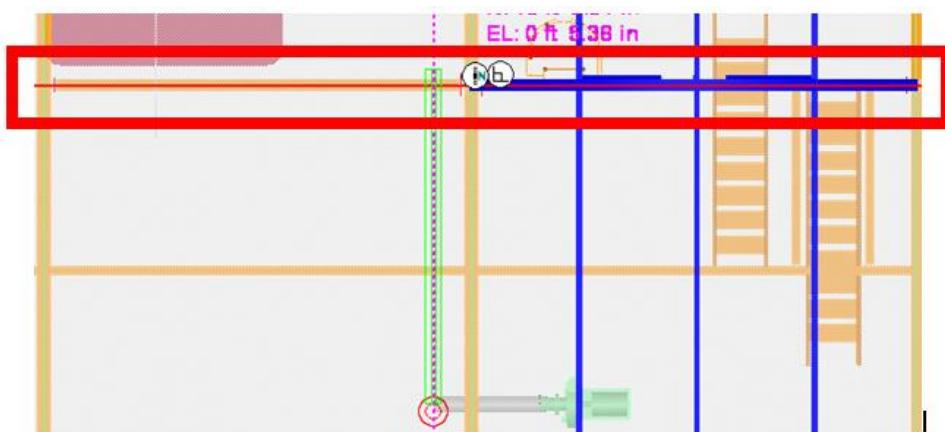

Figure 3.16: Grid Line Added to SmartSketch
- Now move the cursor in the north direction. You will see an outline of the pipe. Move the cursor to the grid line highlighted in Figure 3.16 to add it to SmartSketch.